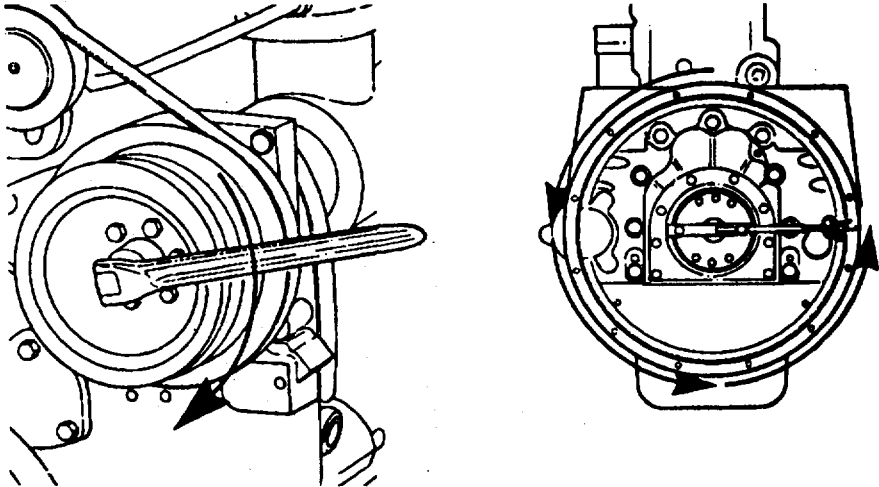

FIGURE 3-90. Rotating Crankshaft.
- (d) Use the accessory drive shaft to rotate the crankshaft in a clockwise direction (FIGURE 3-90) .